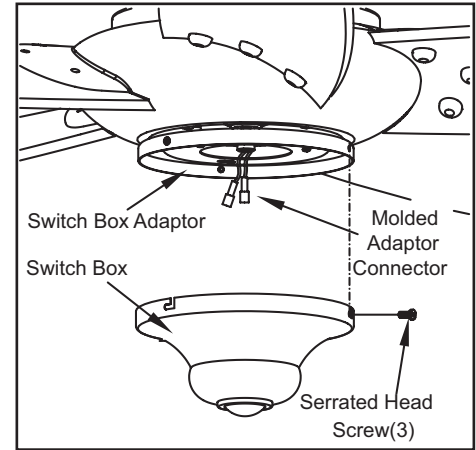

Figure 13
5. Remove one serrated head screw from the switch box adaptor. Loosen but do not remove the other two serrated head screws (Figure 13).